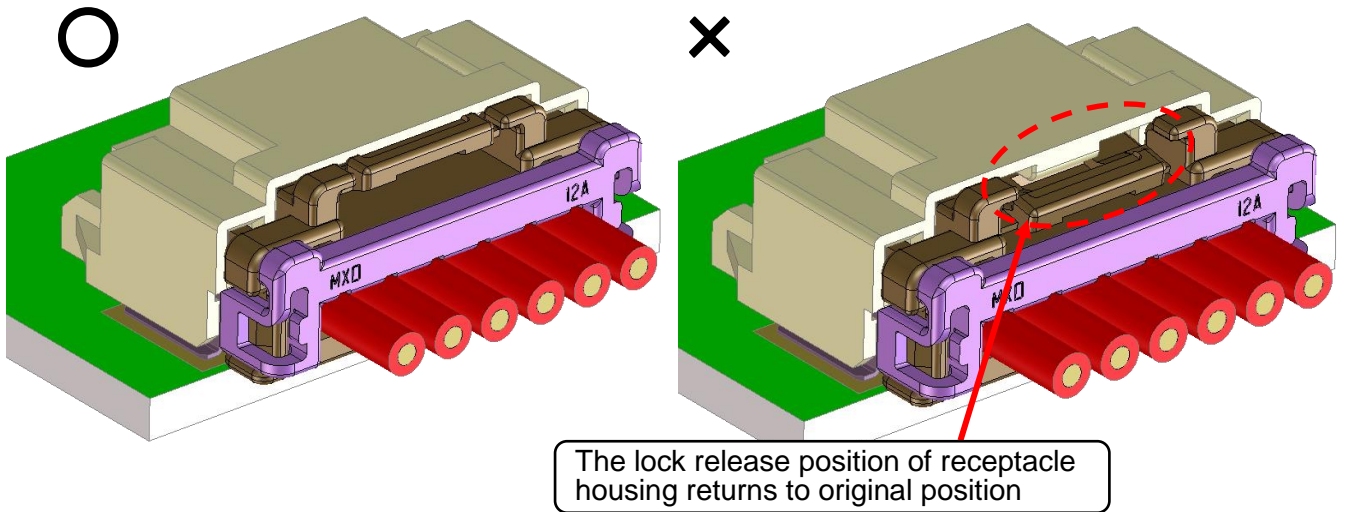

Fig.9-3 Confirmation of
- ※After insertion, please confirm not to come off connectors with pulling all wires lightly (about 2~3 N). When pulling wires, you should care not to apply the force to particular wire. Additionally, please confirm visually that the lock release position of receptacle housing returns to original position. (**Fig.9-3**) If not, it might be incompleting mating. Please withdraw the connector according to Section 9-2, and check the terminals that have transformation.